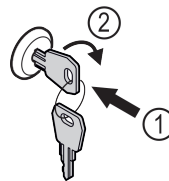

Fig. 180
- Insert the key. Fig. 180 (1)
- Turn the key clockwise by 90°. Fig. 180 (2)